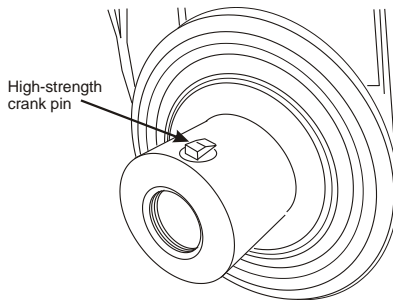

Figure 2.8
- ☐ Install the replacement crankshaft/harmonic balancer-locating pin and tap it home using a brass drift and a small hammer. Ensure that the head of the pin is aligned with the crankshaft by twisting it into position with a crescent wrench.(Figure 2.8)